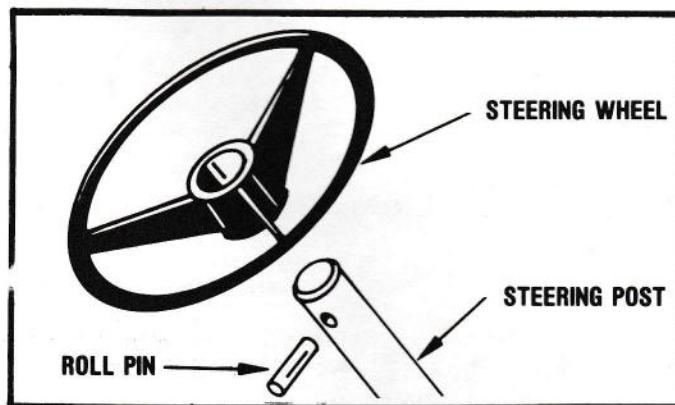

FIGURE 18
- 7.2 Place the steering wheel on the steering post while aligning the holes. Secure with a roll pin. See Figure 18.